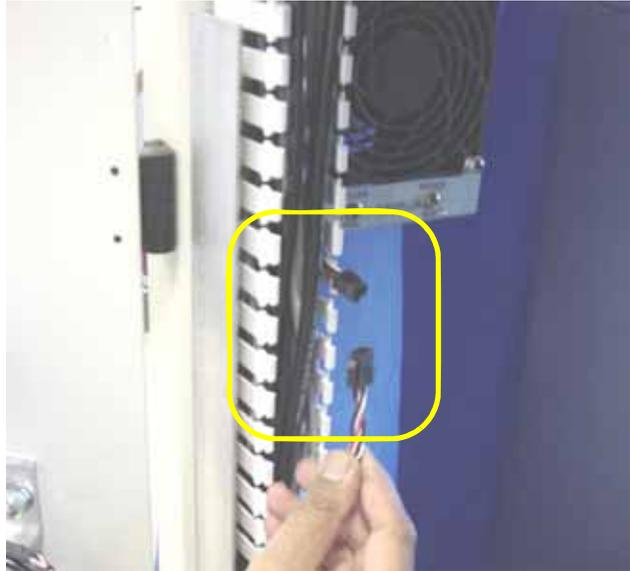

Figure 1-15—Connect door wire harness to switch panel harness
- 8b) Connect the switch panel harness to the connector from the door harness as shown in *Figure 1-15*.